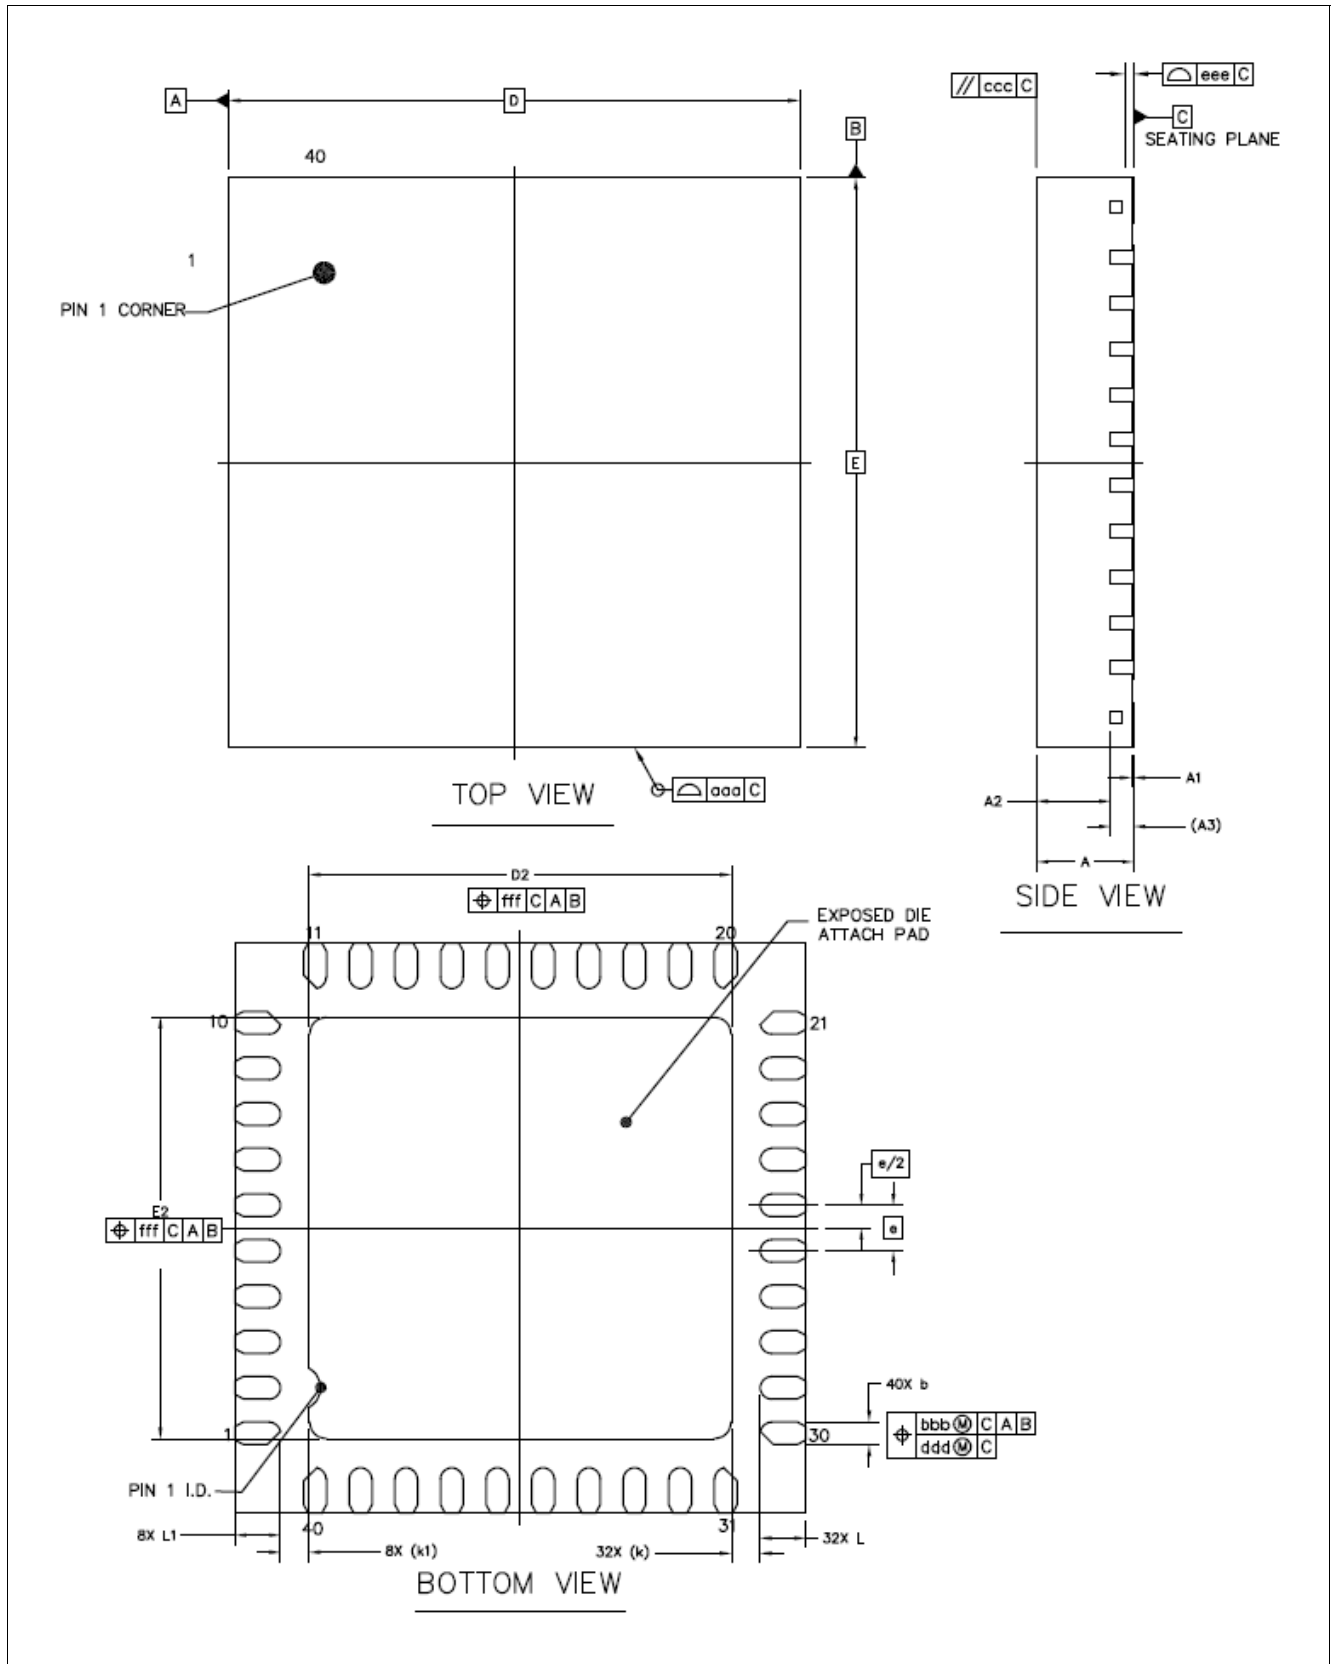

Figure 16 PG-QFN-40 Mechanical Drawing
**Table 33** provides the mechanical dimensions of the PG-QFN-40 package. **Figure 16** shows the top, side, and bottom dimension drawings of the package.